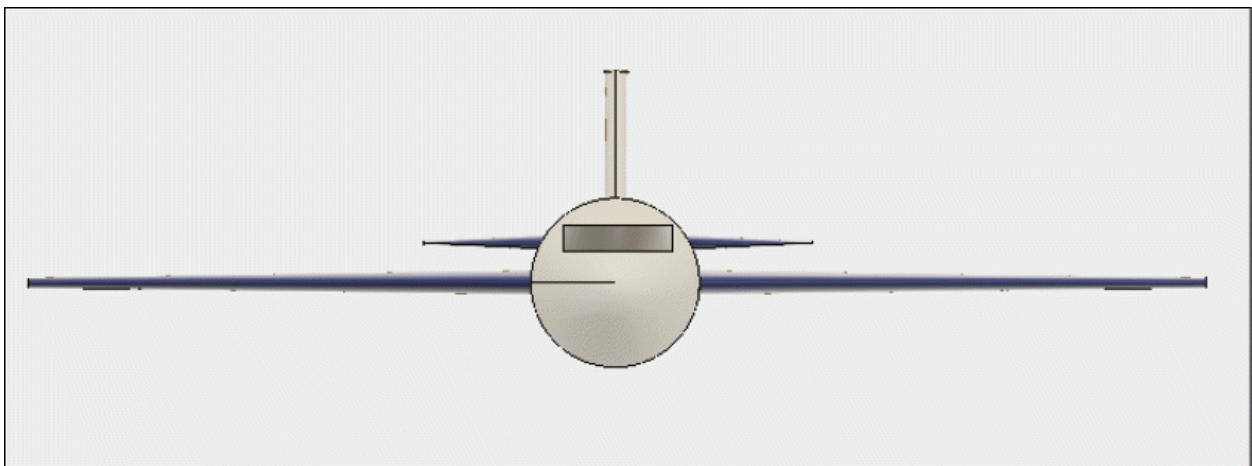

Figure-69. Front view of aircraft
- After applying all the tools from above section. The aircraft will be created completely; refer to Figure-69.